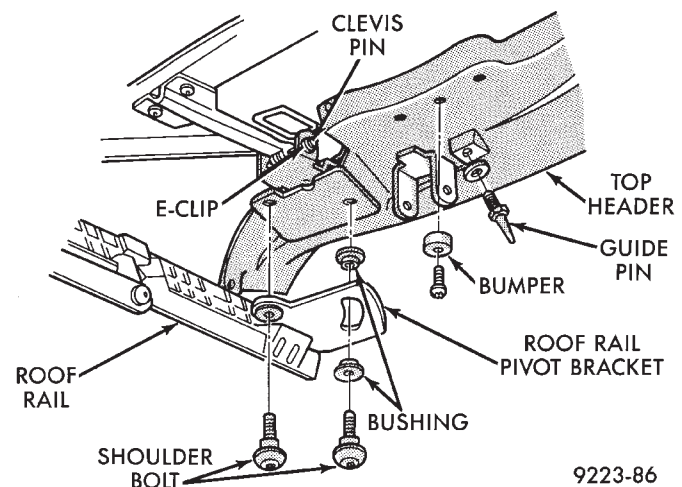

Fig. 7 Pivot Link and Roof Rail Pivot Bracket.
- (5) Raise convertible top, do not latch top to windshield header.
- (6) Remove pop-rivets holding stay pads and retention cables to top header.
- (7) Lower convertible top.
- (8) Remove E-clips and clevis pins holding second bow pivot link to top header (Fig. 7).
- (9) Remove bolts holding roof rail pivot bracket to top header (Fig. 7).
- (10) Separate top header from convertible top frame.